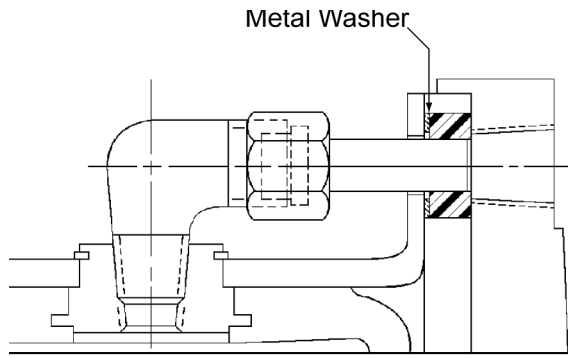

Figure 10
2.5.4 Install the air connection gaskets onto the air tubes. The metal backup washer is to be positioned toward's the elbow (away from the spider). See **Figure 10**.
- 2.6.8 Install the air connection gaskets onto the air tubes. The metal backup washer is to be positioned toward's the elbow (away from the spider). See **Figure 10**.